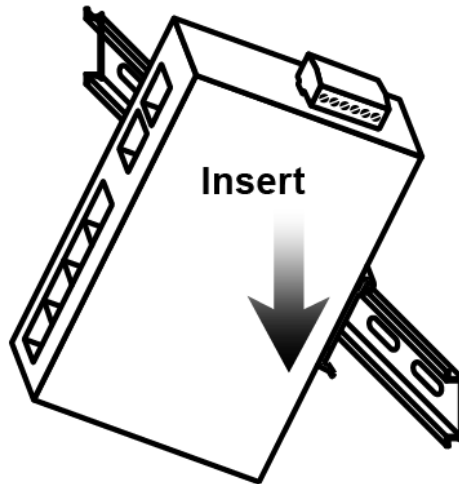

Figure 3.2: Insert the Power Booster on the DIN-Rail
Step 3. After the DIN-Rail bracket is installed on the rear side of the power booster, insert the top of the DIN-Rail on to the track as shown below in Figure 3.2.